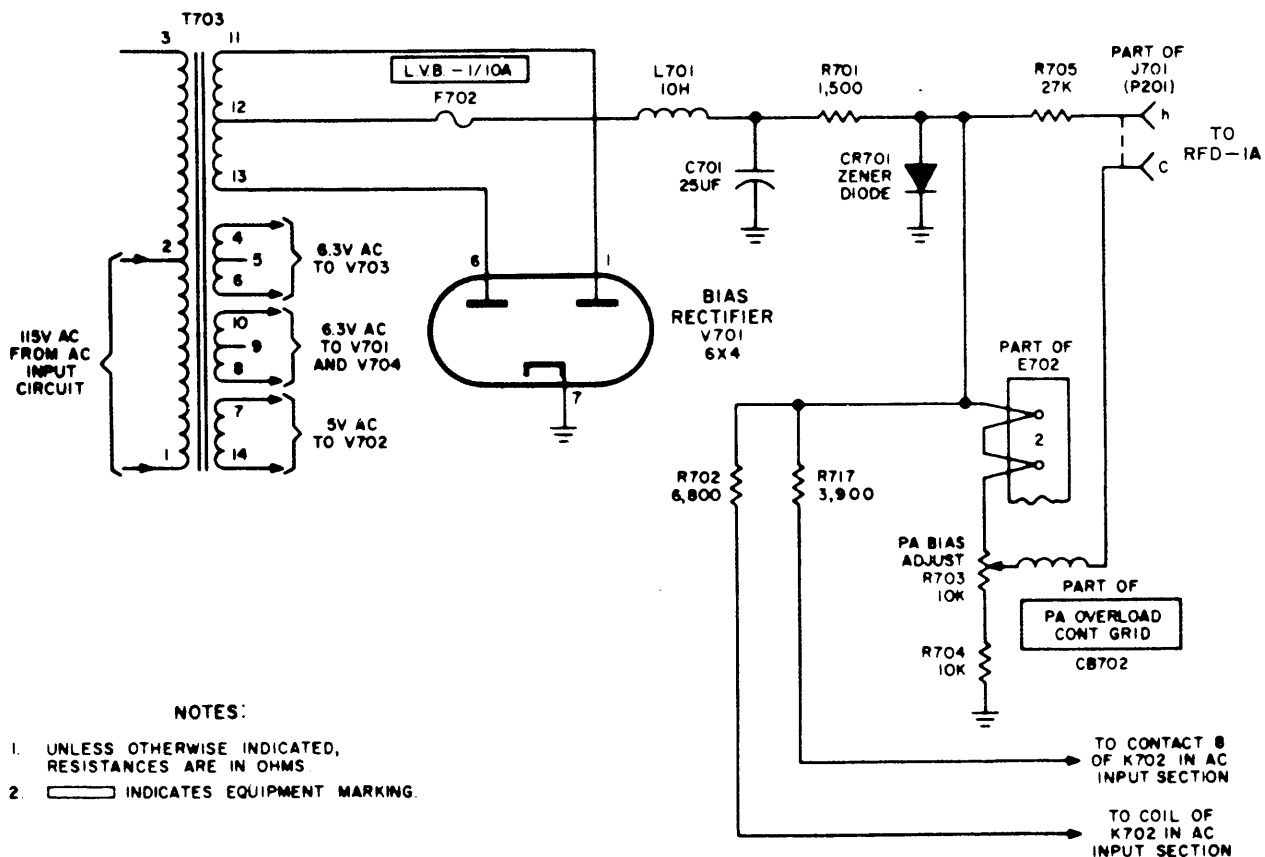

Figure 4-9. Simplified Schematic Diagram, Bias Power Supply Section, PS-4A
d. BIAS POWER SUPPLY (See figure 4-9).
(1) 115 VAC is applied to the primary of transformer T703 from the a-c input circuit (figure 4-7). The secondary of T703 has four windings; three windings provide filament voltage for the tubes in the mid-voltage power supply. The fourth winding provides plate voltage for bias rectifier V701 (figure 4-9).
(2) The rectified output of V701 is taken off pin 12 of T703 and applied, through LV B-1/10A fuse F702, to an LC filter network (L701 and C701). The -150 VDC output of the filter network is applied to pin h of J701 jack through R701 and R705. Voltage is regulated by Zener diode CR701. A portion of this voltage is tapped off R703, PA BIAS ADJ resistor, and applied to pin C of J701 via the coil of PA OVERLOAD CONT GRID circuit breaker CB702.